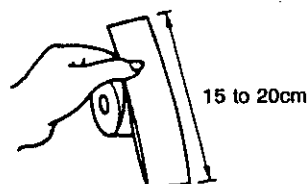

Fig. 3
4. Fold the paper end as shown in Fig. 3 to ease the insertion.